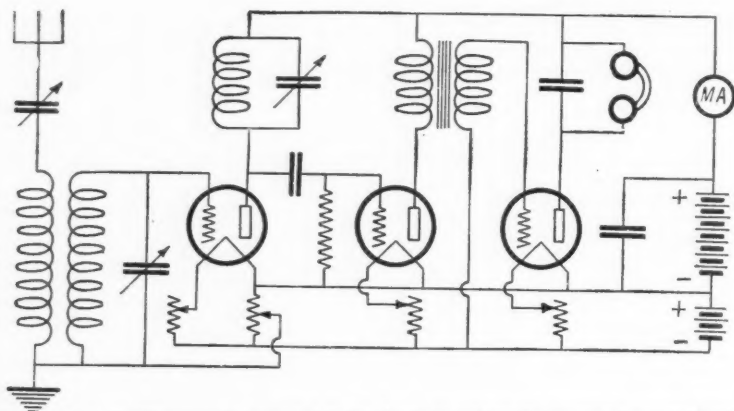

Fig. 1. How a milliammeter is connected in the circuit to register the amount of current flowing in the "B" battery circuit.
**W**HEN asked by a beginner what is the most useful instrument to buy, the writer always recommends the purchase of a milliammeter and strongly advises that it should be kept wired in series with the "B" battery when the set is working, in the way shown in Fig. 1. If this is done, one has one's finger, so to speak, always on the pulse of the set and one's search for faults when they occur is considerably narrowed down. Take for example the case of a set such as that shown in Fig. 1. The milliammeter reading when the set is working perfectly is taken and noted down for future reference. Let us suppose that it is two milliamperes. If at any time signals become weak the first thing to do is to glance at the pointer of the instrument. Should it still register two milliamperes we know: (a) that there is nothing wrong with the plate circuits; (b) that the tubes are above suspicion as regards at any rate three out of their four connections (filament and plate); (c) that we need not look to batteries or battery connections for the source of the trouble; (d) that there is no short circuit or broken circuit on the high tension side of the set. This narrows down the field of the search to quite small dimensions. The fault, if it is not in the phones, must lie either in the grid circuits, which include grid condenser, grid-leak and transformers, or in what we may call the tuning part of the set. So far as transformers are concerned we are limited to the secondaries, for their primaries are in the plate battery circuit. By the tuning part of the set is meant (1) the antenna; (2) the ground; (3) the antenna inductance, and antenna condenser; (4) the closed circuit inductance and closed circuit condenser. The grid circuits can be tested out very easily. Begin with the audio frequency tube. Increase the negative potential of the grid biasing battery and watch the milliammeter. If current passed decreases, this grid circuit is as it should be. If not there is a fault. Test the detector in the same way by removing the grid leak and connecting the grid battery in its place. The radio frequency tube may be tried simply by moving the slider of the potentiometer from end to end. If there is no fault the milliammeter will register an increase as it moves towards the positive end. Having thus tested all the rest of the set nothing remains but the antenna and ground and the fault will be found in one or other of these.